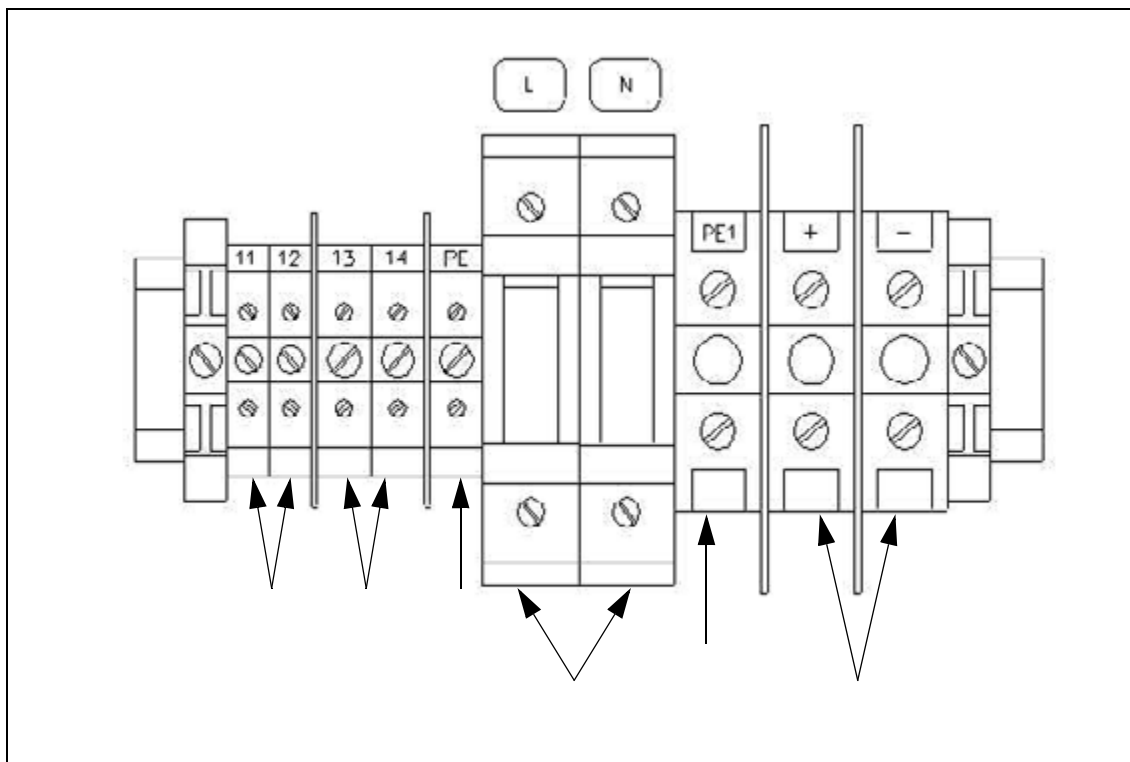

Fig. 29:
- No battery output voltage (approx. 585V) at terminal + and - (6/Fig. 29 / p. 45):
- No battery output voltage (approx. 292V) at terminal + or - and PE1 (5, 6/Fig. 29 / p. 45):
- Check the battery output voltage at terminal + and - (6/Fig. 29 / p. 45); it must be approx. 585V.
- Check half the battery output voltage at terminal + and PE1 (5, 6/Fig. 29 / p. 45); it must be approx. 292V.
- Check half the battery output voltage at terminal - and PE1 (5, 6/Fig. 29 / p. 45); it must be approx. 292V.
- Check the AC output voltage at terminals 13 and 14 (2/Fig. 29 / p. 45); it must be approx. 400V.
- When battery charging is completed, check the "ESU ready" signal at terminals 11 and 12 (1/Fig. 29 / p. 45); it must be approx. 0V (24V DC = battery charging is not yet completed).